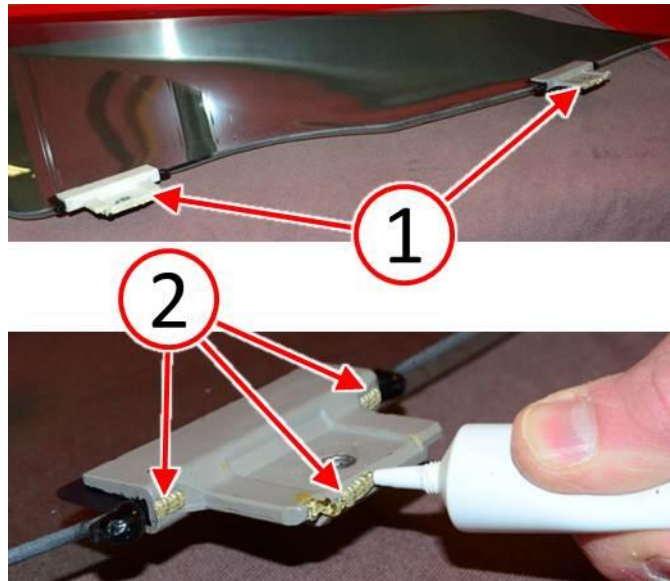

Fig. 8 Lubricate Door Glass Mount
18. If dirty, clean the door glass mounts (1) before applying the Nye lubricant (Fig. 8).
19. Apply Nye lubricant (2) to the bottom horizontal surfaces of the door glass mounts (1) (Fig. 8).